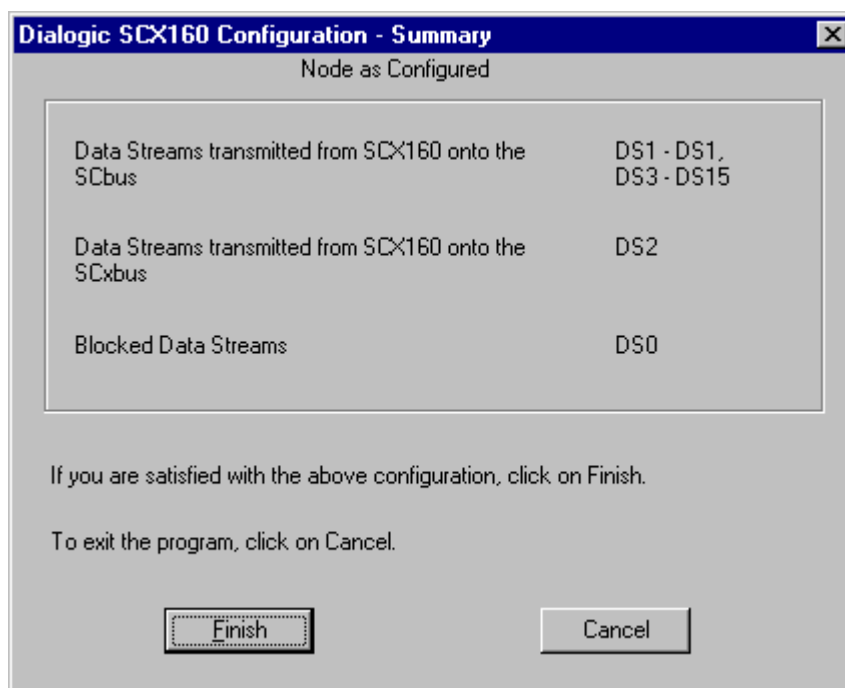

Figure 52. Dialogic SCX160 Configuration - Summary Window
22. Click on the **Next>** button to proceed and *Figure 52. Dialogic SCX160 Configuration - Summary Window* displays.
The configuration values listed in *Figure 52. Dialogic SCX160 Configuration - Summary Window* are: